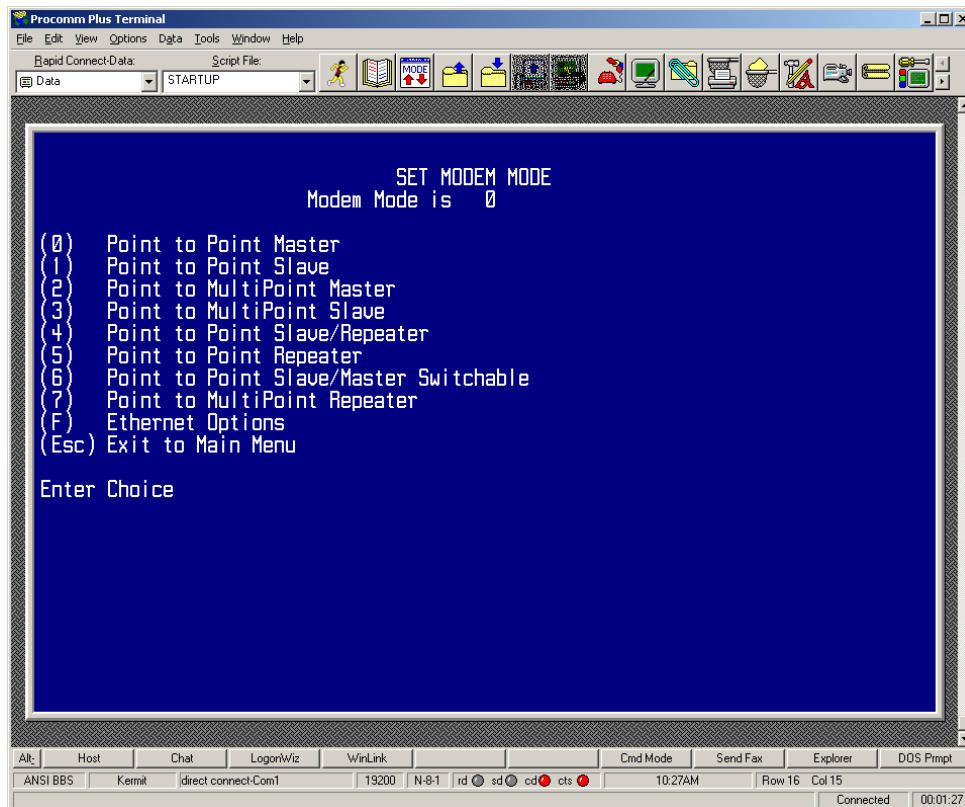

Figure 5-1: Operation Mode Menu
| Figure 5-1: Operation Mode Menu | 6 |
When item (0) is selected the Operation Mode Menu appears as shown in **Figure 5-1**. The Operation Mode option is used to designate the method in which the particular transceiver will be used. The Communicator II operates in a Master to Slave configuration; therefore, any transceivers that are intended to operate together must be set up as such. In a point-to-point setup, either the master or slave may be used on either end of the communications link without any performance degradation. One consideration when setting up the transceivers is that a number of parameters are controlled by the settings in the master; therefore, you may wish to deploy the master on the communications end where you will have easier access to the transceiver.